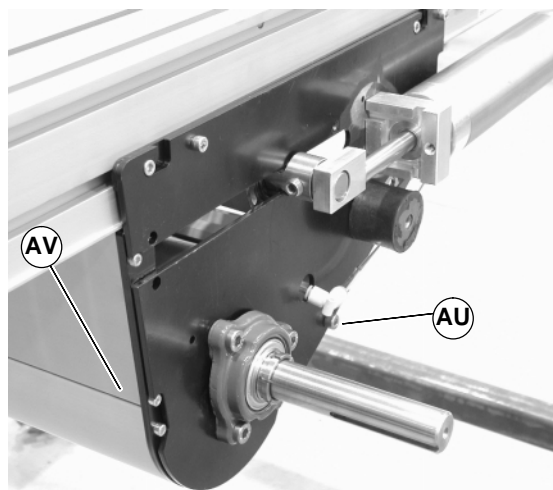
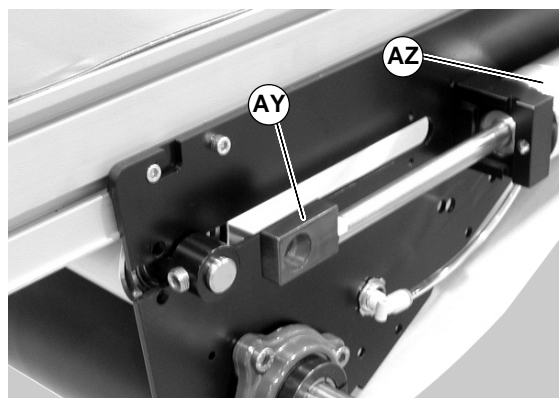

Figure 61
Figure 63
3. Temporarily support the tensioning roller guard (AV of figure 61). Remove screws (AU) on both sides of center drive and remove tensioning roller guard (AV of Figure 61 and 62).
5. Push shaft (AX of Figure 61) through block, slide block (AY of Figure 63) towards air cylinder (AZ).